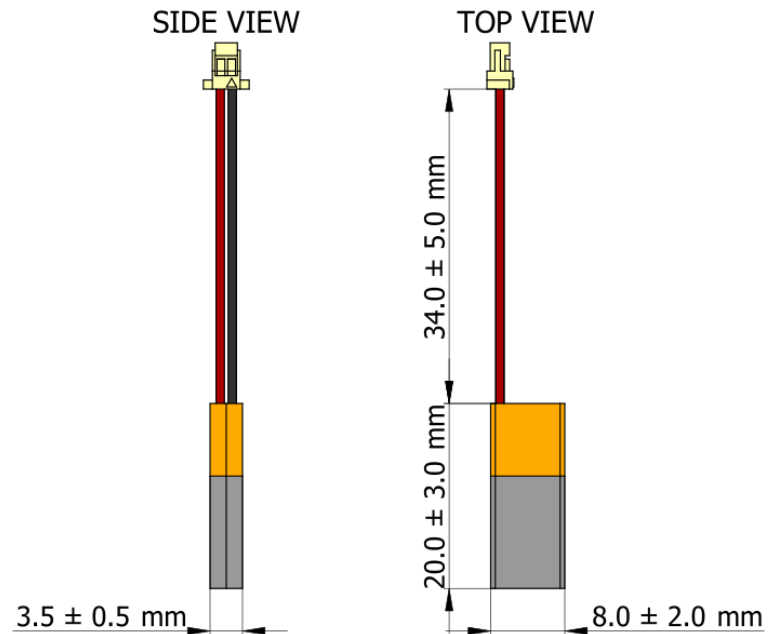

Figure 1: 40mAh Battery Drawing & Dimensions
1.1 Outline Dimensions: See attached drawing, Figure 1, for dimensions. Note: The thickness of the battery will swell when stored or used at high temperatures.